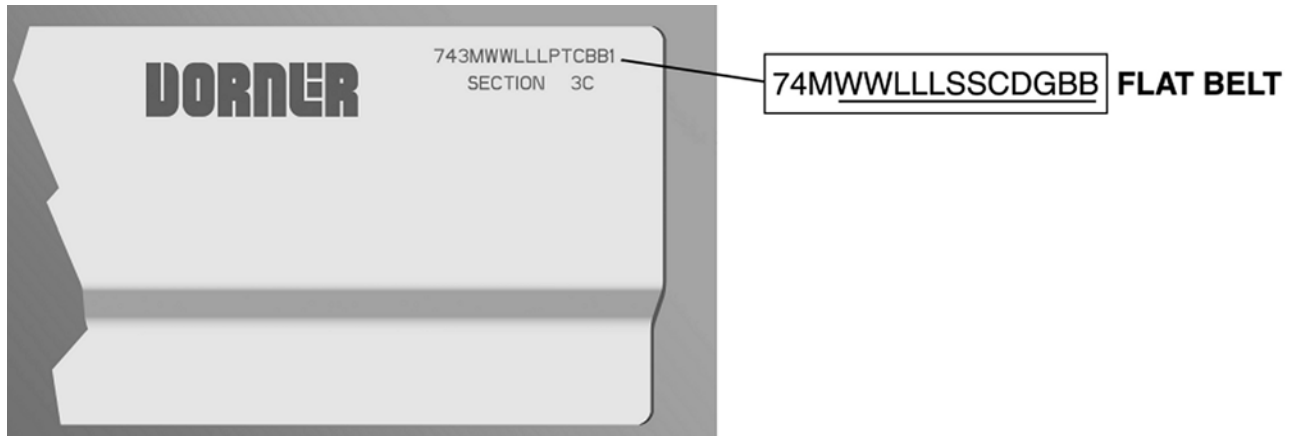

Figure 85
Refer to the model number on the conveyor frame (**Figure 85**). From the model number, determine conveyor width (WW), length (LLL), drive stand location (S), idler stand location (S), cleaning options (C), drive/pulley type (D), profile (G) and belt material (BB).